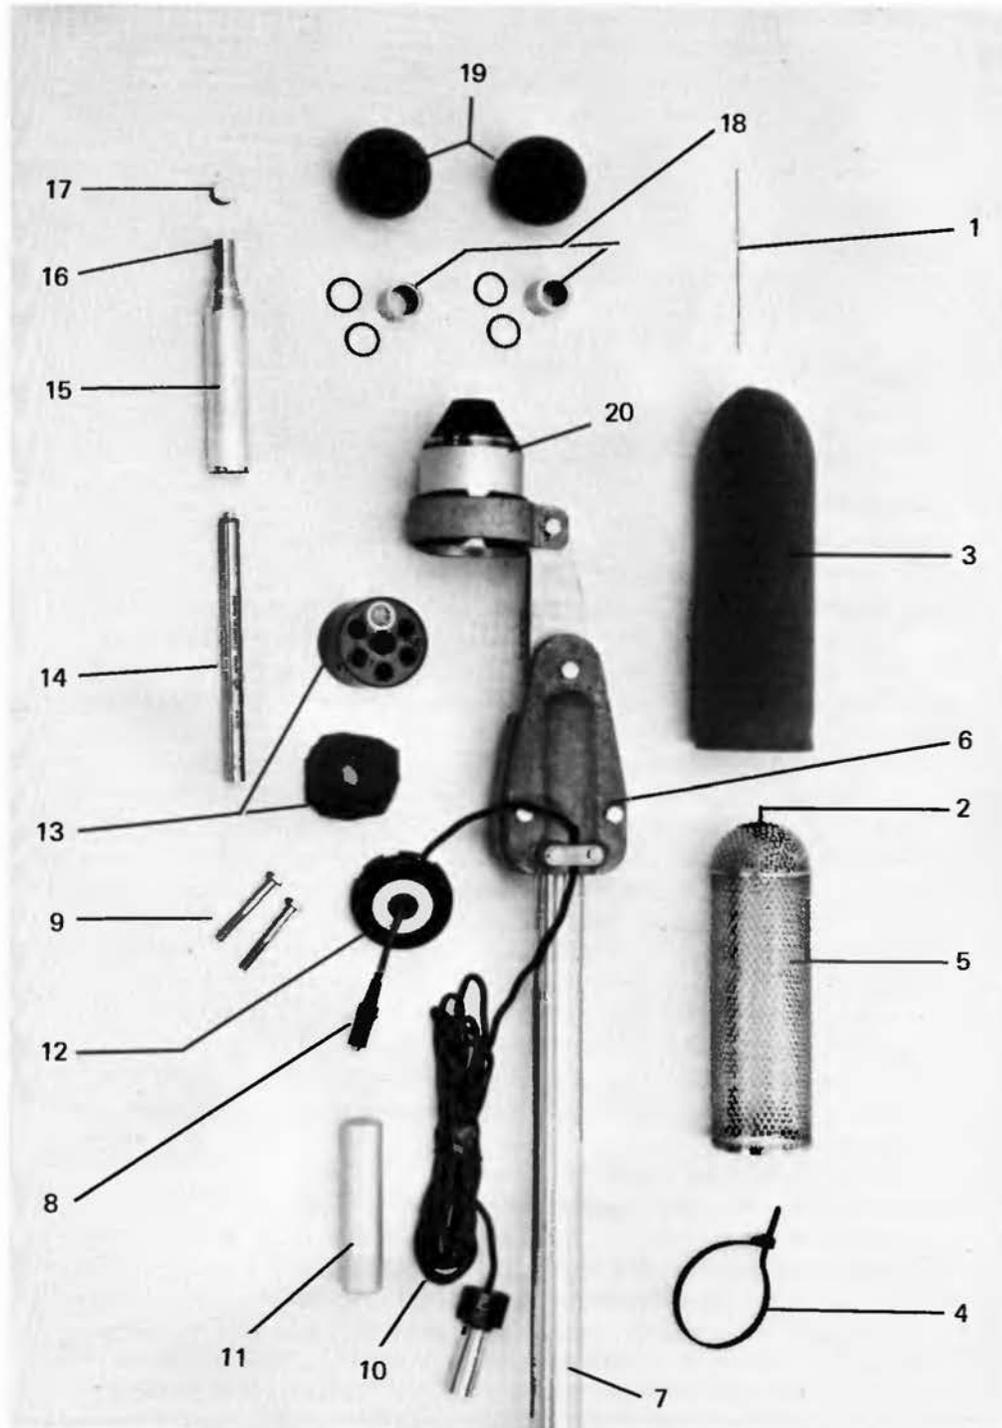

Figure 8-3. System Components.
Each operating 1945-9730 system consists of two functional units, the microphone/preamplifier assembly (See Figure 8-2) with its weatherproof housing and the mast (See Figure 8-3) with mounting hardware. All components are listed in Table 8-1. The microphone is not supplied but may be selected from those listed in Table 8-2.
Figure 8-1 illustrates the mast, with mounting hardware in position to hold the microphone assembly atop the supporting mast. Two cap screws (See Figure 8-3) are used to secure the assembly to the mast (supplied). Two longer cap screws are supplied for use with a 2-in. (50 mm) mast (not supplied).
All items are illustrated in Figure 8-3. The numbers refer to the identifiers in the figure.
- 14 Preamplifier – Connects to cable (10) and indirectly to microphone (17), described in Section 4
a. Identify all components of the system before beginning the assembly procedure. Arrange parts in somewhat the same order as that shown in Figure 8-3. Refer also to Figures 8-1 and 8-2. The numbers in parentheses refer to the identifiers in Figure 8-3.
b. Select the output cable (10). Insert the smaller cable connector through the seal nut assembly (12), the desiccant cartridge and insulating pad (13). Attach connector (8) to preamplifier (14); observe positioning key on connector and preamplifier. On some models the insulating pad is attached to the housing assembly.
d. Hold housing assembly (20) in one hand and insert the preamplifier (14) into the large end of the housing.
e. Turn the microphone extender upside down to let the center pin drop down. Push the preamplifier (14) forward and thread into microphone extender (15). Thread other end of extender into housing assembly (20). The center pin should protrude about 1/8-in. (3 mm) from the extender.
f. Fit insulating pad (if not attached) and desiccant cartridge (13) into the housing assembly (20) and secure with the threaded seal-nut assembly (12).
g. At the base of the housing (20) pull the cable gently to make a good seal.
h. Thread the protective cap (17) or a 1/2-in. microphone (16) to the connector on the microphone extender (15). The 1/2-in. (12.70 mm) microphone does not require an adaptor.
i. If a 1-in. (23.81 mm) microphone is to be used, install the appropriate adaptor (18) with O-rings before installing microphone. (Refer to para. 8.8)
j. Install proper size windscreen (19).
k. Thread shield (5) to housing assembly (20). Pull on boot (3) and secure with boot clamp (4). Thread spike (1) into spike holder (2).